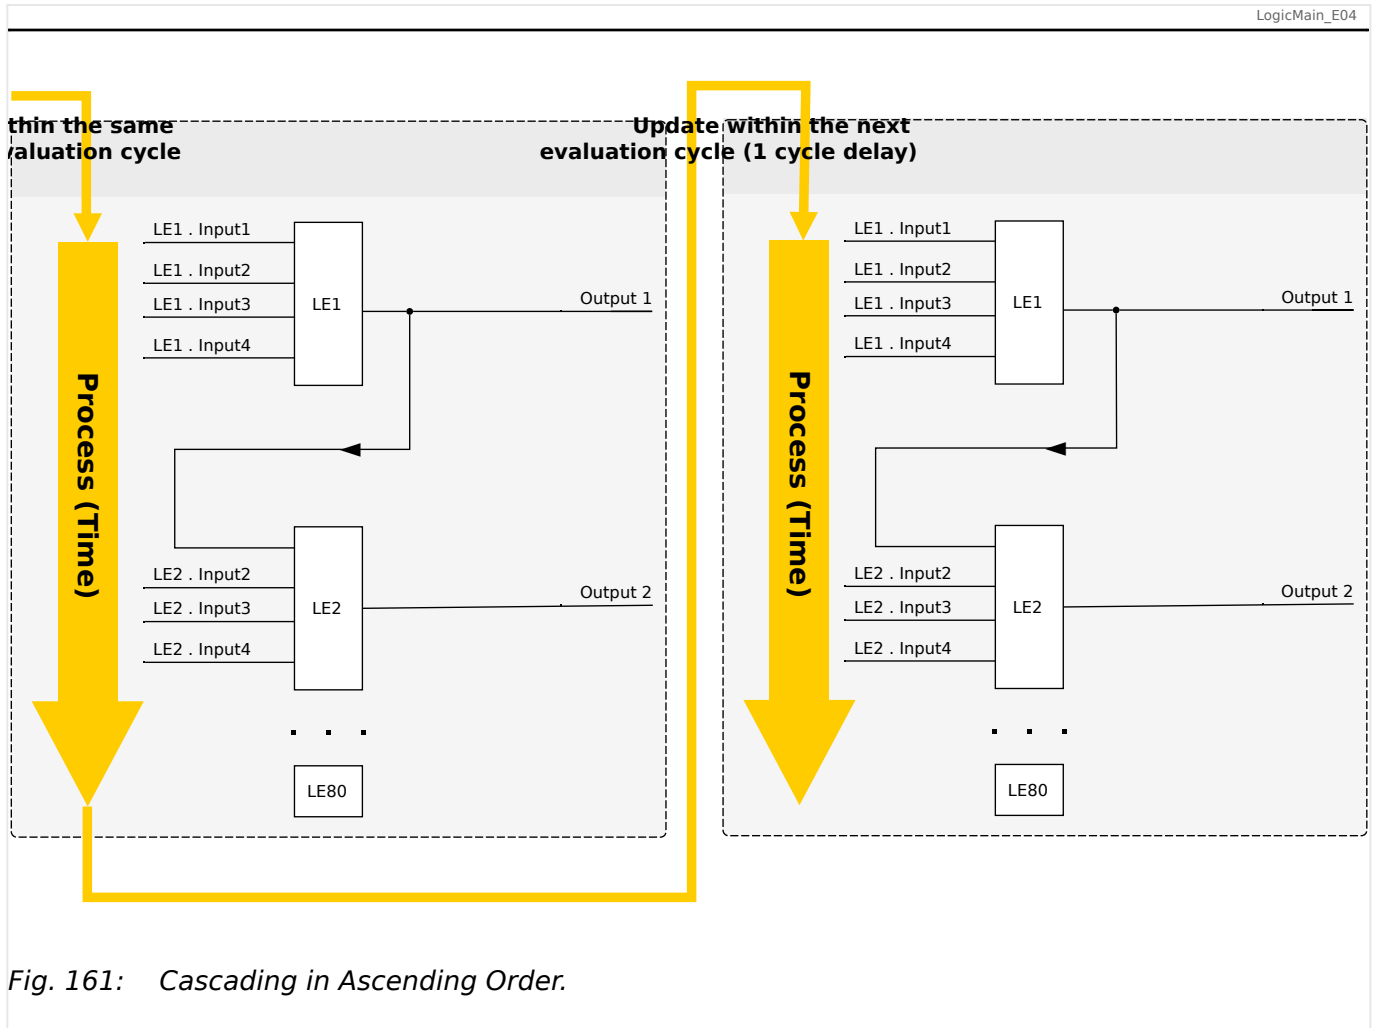
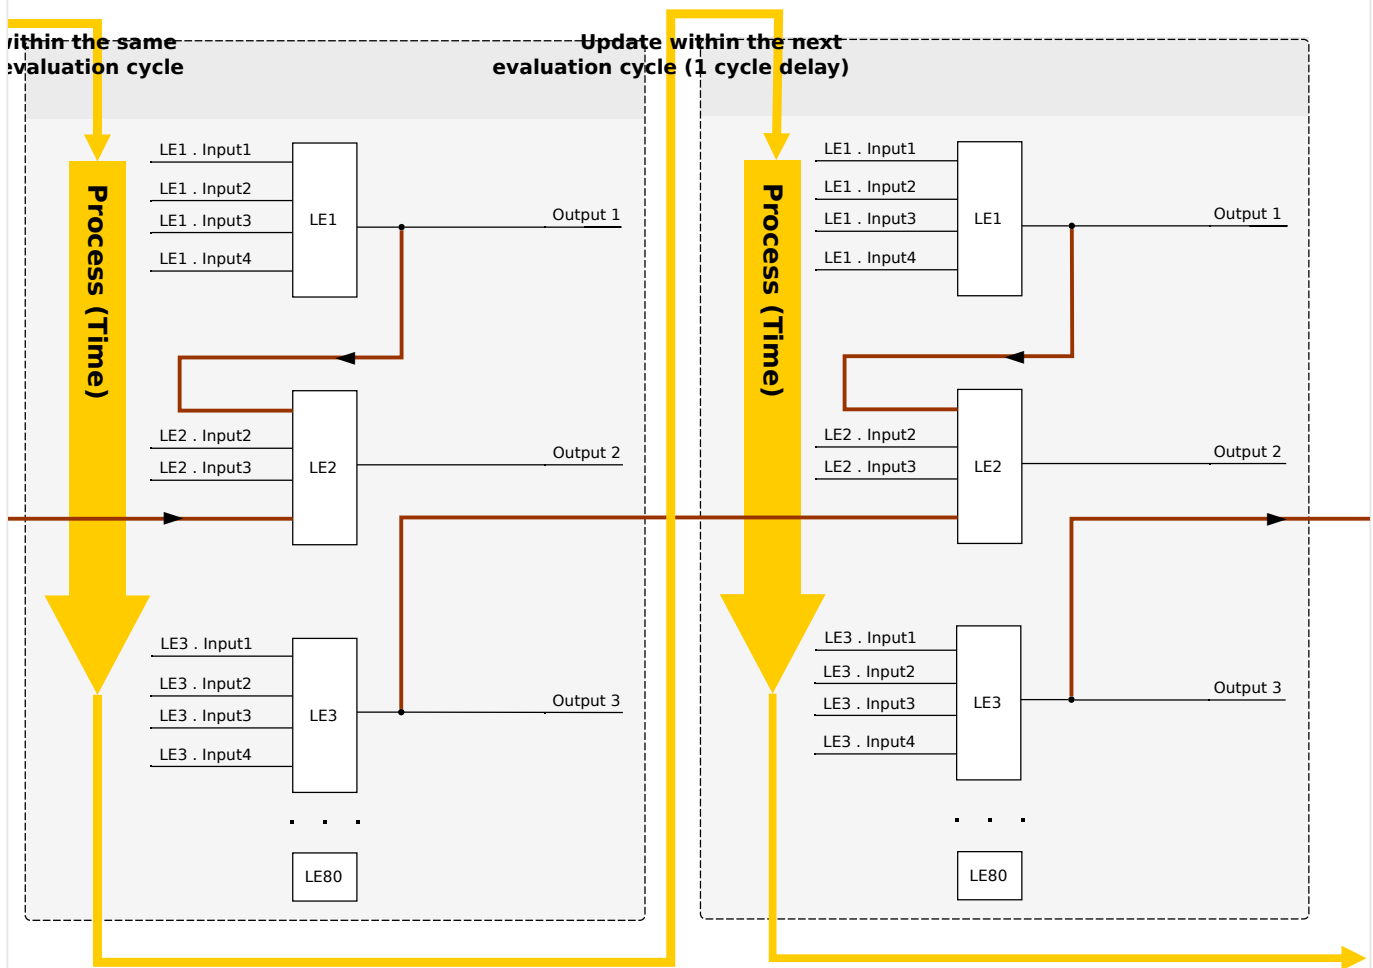

Fig. 161: Cascading in Ascending Order.
Fig. 162: Cascading in Descending Order.
- **Ascending** sequence means that some output is fed into the input of a logic equation with **higher** number. For instance, diagram ↪Fig. 161 below shows an example where the result of Logic Equation LE1 is used as an input of Logic Equation LE2.
- **Descending** sequence means that some output is fed into the input of a logic equation with **lower** number. For instance, diagram ↪Fig. 162 shows an example where the result of Logic Equation LE3 is used as an input of Logic Equation LE2.
Both ascending and descending sequences may be used and combined one with the other, with no immediate difference. However, due to the evaluation of all equations in ascending order the actual run-time values that are fed in at the input of an equation will have a different “age”, as is shown in ↪Fig. 161 and ↪Fig. 162 below.
In the example shown in Fig. 162 above, “Logic Equation 2” uses the output states of two other equations, “Logic Equation 1” and “Logic Equation 3”. The result of “Logic Equation 1” is used in ascending order and has therefore been evaluated within the same process cycle. The result of “Logic Equation 3” is used in descending order and has therefore been evaluated in the previous process cycle.